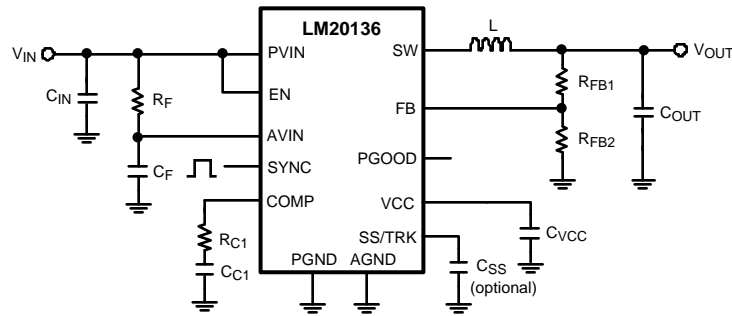

**Figure 38. Schematic of LM20136 Highlighting Layout Sensitive Nodes**
1. Minimize area of switched current loops. In a buck regulator there are two loops where currents are switched rapidly. The first loop starts from the input capacitor, to the regulator VIN pin, to the regulator SW pin, to the inductor then out to the output capacitor and load. The second loop starts from the output capacitor ground, to the regulator PGND pins, to the inductor and then out to the load (see Figure 38). To minimize both loop areas the input capacitor should be placed as close as possible to the PVIN pin. Grounding for both the input and output capacitor should consist of a small localized top side plane that connects to PGND and the die attach pad (DAP). The inductor should be placed as close as possible to the SW pin and output capacitor.